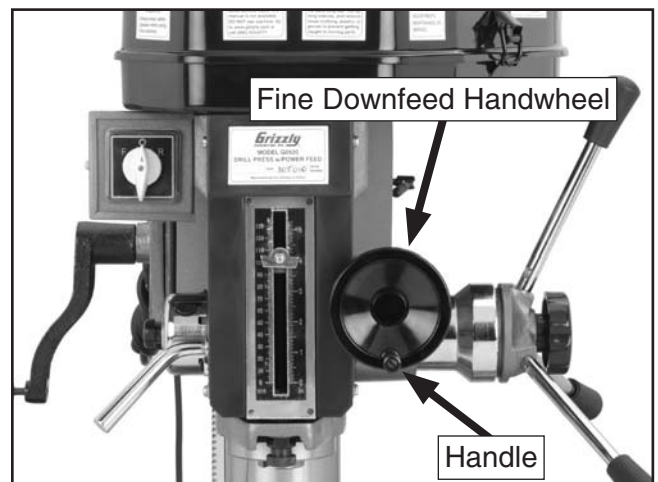

Figure 11. Fine downfeed handle properly installed.
4. Reverse the position of the handle on the fine downfeed handwheel, as shown in **Figure 11**.